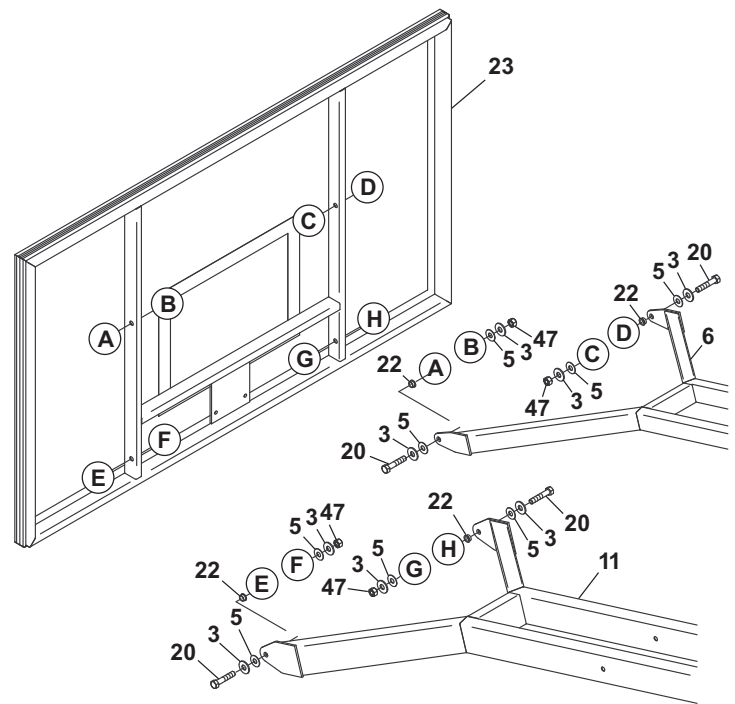

Figure 10
14. With at least three capable people, raise the backboard assembly up and have the fourth attach Lower Board Arms to lower mounting holes on backboard using two bolts (#20), two step bushings (#22), (shipped already installed), four plastic washers (#5), four flat washers (#3) and two thin hex jam locknuts (#47). See Figure 10.
15. Attach Upper Board Arms to upper mounting holes on backboard using two bolts (#20), two step bushings (#22) (shipped already installed), four plastic washers (#5), four flat washers (#3) and two thin hex jam locknuts (#47). See Figure 10.